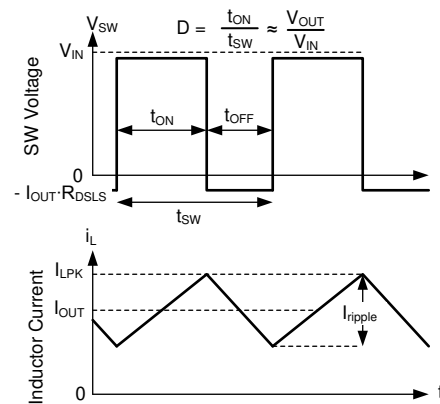

Figure 8-14. SW Voltage and Inductor Current Waveforms in Continuous Conduction Mode (CCM)
The following operating description of the LMR36506 refers to Section 8.2 and to the waveforms in Figure 8-14. In CCM, the LMR36506 supplies a regulated output voltage by turning on the internal high-side (HS) and low-side (LS) switches with varying duty cycle (D). During the HS switch on-time, the SW pin voltage, V_{SW} , swings up to approximately V_{IN} , and the inductor current, i_L , increases with a linear slope. The HS switch is turned off by the control logic. During the HS switch off-time, t_{OFF} , the LS switch is turned on. Inductor current discharges through the LS switch, which forces the V_{SW} to swing below ground by the voltage drop across the LS switch. The converter loop adjusts the duty cycle to maintain a constant output voltage. D is defined by the on-time of the HS switch over the switching period: